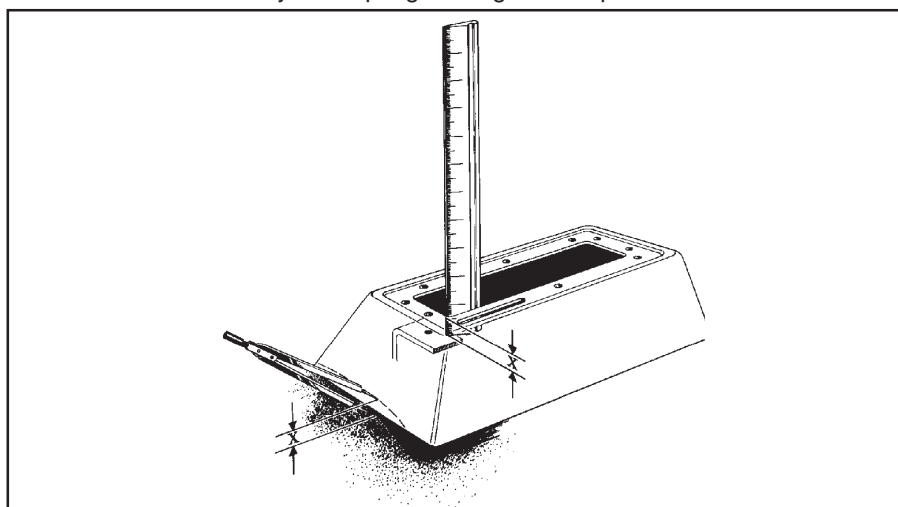

Figure 9
STEP 27. Place the tower over the shifter mechanism until the bottom edge of the tower touches the floor. Put the shifter cover and the indicator cable through the opening in the top of the tower. Hold the tower level to the shifter with the bottom of the tower touching the highest surface on the floor it will come into contact with (**See Figure 9**). Use a ruler to measure the distance X from the underside of the tower to the tower mounting brackets on the shifter mechanism.
Figure 9). Using the dividers, scribe a line around the tower that follows the contour of the floorboard. Remove the tower and trim at the scribe line using tin snips. Once the tower is properly trimmed, install it using two flat head sheet metal screws. The indicator cable should be routed out the top of the tower on the right side while the tower is being installed.